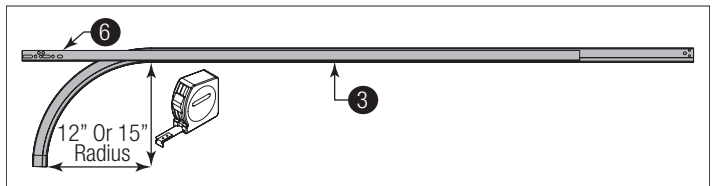

Figure 36
**See Figure 36 through Figure 38 for the following steps.**